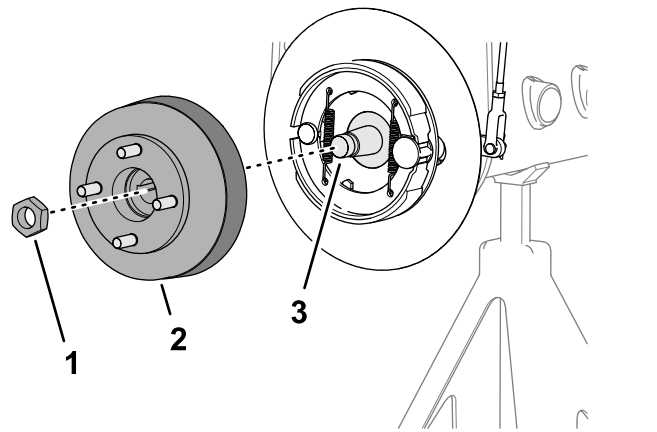

**Figure 65**
1. Remove the locknut that secures the hub to the wheel-motor shaft (Figure 65 or Figure 66).
4. Use the specified wheel hub puller to remove wheel hub and brake drum from the wheel-motor shaft (Figure 65 or Figure 66).